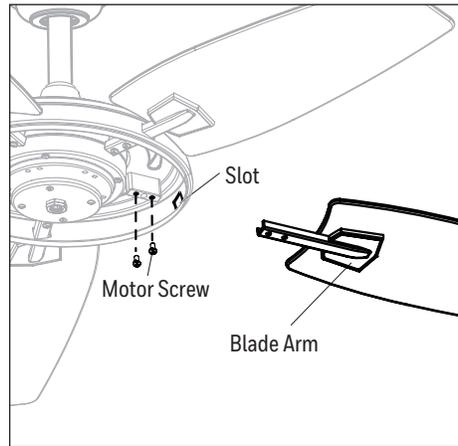

Figure 5.5
- Insert blade arm through slot in the side of the motor assembly. Align the holes of one blade arm with two motor screw holes in underside of the motor assembly. Secure with two motor screws. Repeat this step for the remaining blade arms (Figure 5.5).